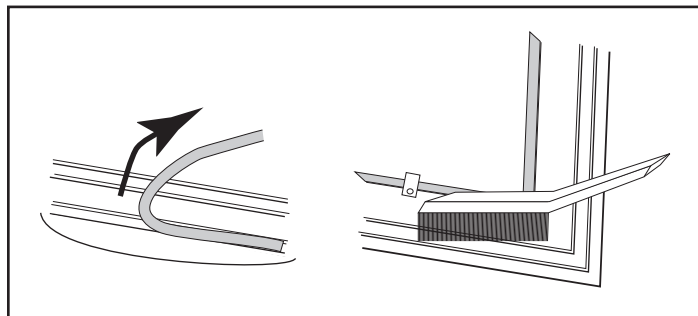

**Figure 3.4** - Remove gasket then clean channel with wire brush.
1. Remove the existing gasket by grasping an end and pulling firmly. (Figure 3.4)
2. Use a wire brush or the tip of a screwdriver to clean the channel of any remaining cement or bits of gasket. Remove stubborn deposits of cement with a cold chisel if necessary. (Figure 3.4)